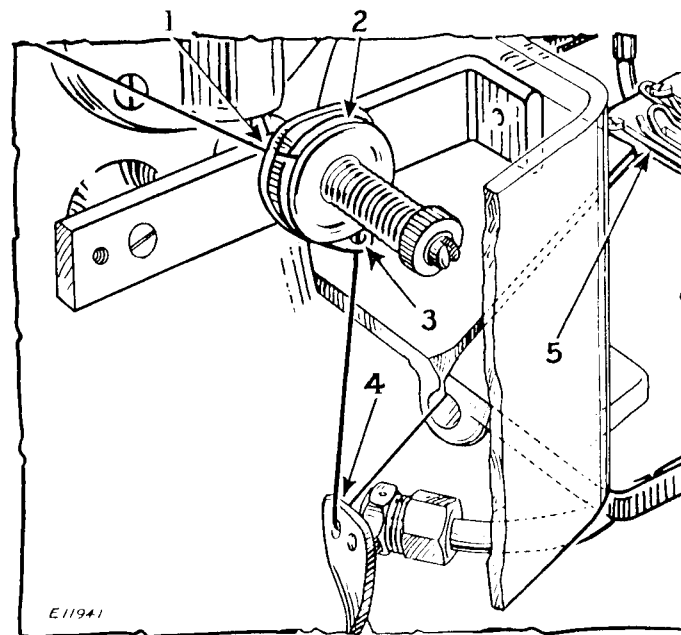
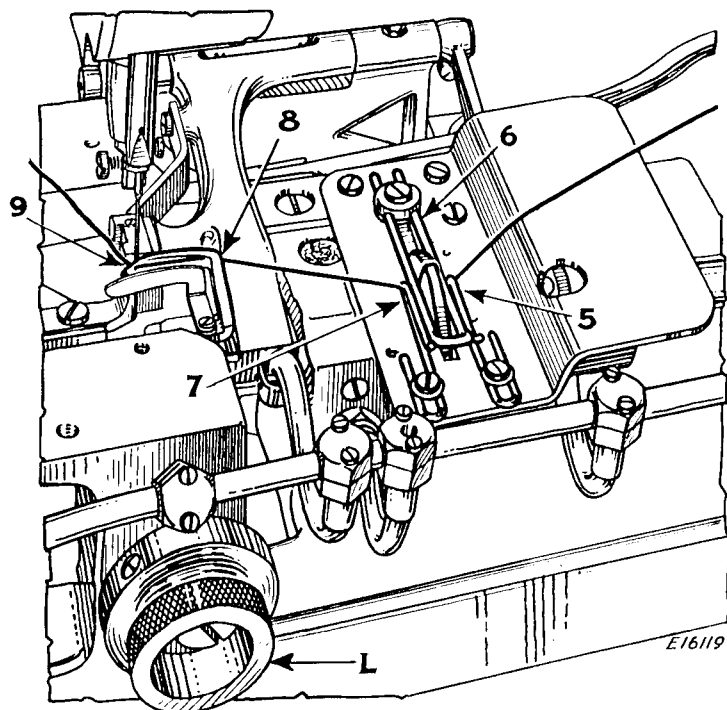

Fig. 6. Under Threading
Fig. 7. Under Threading
Under Threading Operator Standing at the Front of the Machine (See Figs. 6 and 7)
Turn the balance wheel over from you until the needle bar moves down to its lowest point, then turn the knob (L, Fig. 7, page 10) to the left as far as it will go. This will bring the looper into position for threading.
Pass the thread from the unwinder through the hole (1, Fig. 6) in the tension thread guide at the rear of the machine, over between the tension discs (2), through hole (3) and down through the eyelet (4) in the thread guide that stands up from the bed of the machine. Pass the thread through the hole in the cloth plate guard and through the slot in the cloth plate. Then pass the thread through eyelet (5, Fig. 7),
Allow about two inches of thread to hang free from the eye of the looper with which to commence sewing and turn the knob (L, Fig. 7) back into sewing position.
NOTE - When checking this distance, be sure that the looper is in its locked, or sewing, position. The correct position of the looper, for making this check, is insured by turning the knob (L, Fig. 7, page 10) over to the right (clockwise) as far as it will go. The only time when this knob (L) should be turned to the left (counter-clockwise) is to bring the looper into more convenient position for threading, as explained on page 9.